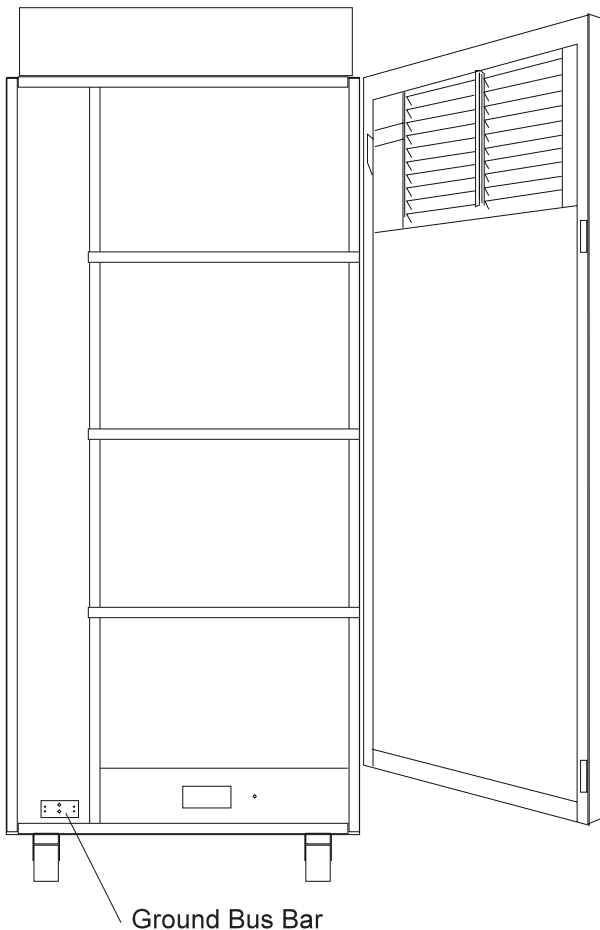

Figure 2-6. Installing frame jumper/ground cable between an RS/6000 7017 Model S70 frame and an SP frame
- a. SP-Attached Server: Route the ground strap (P/N 08J6118) to the ground bus bar on the bottom of the RS/6000 7017 Model S70 frame, as shown in Figure 2-6.